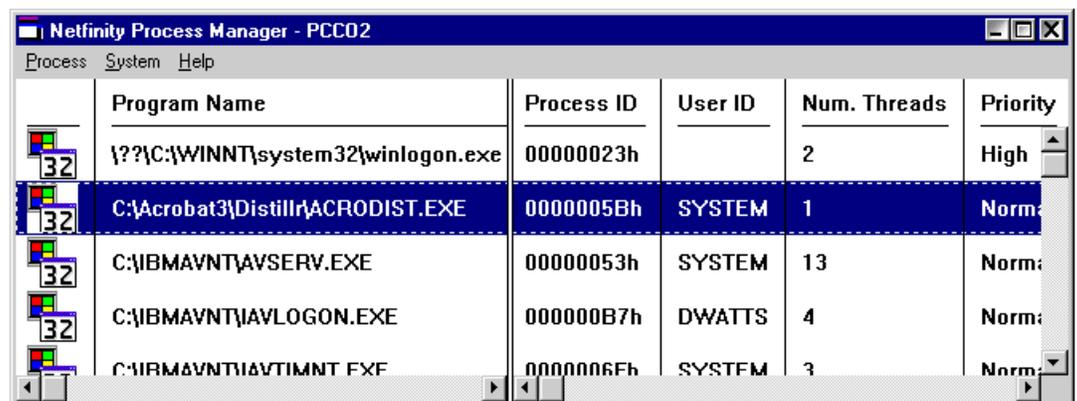

Figure 132. ACRODIST in Process Manager
2. Double-click on the server's **Process Manager** icon and scroll down the list until you see the ACRODIST process as shown in Figure 132.